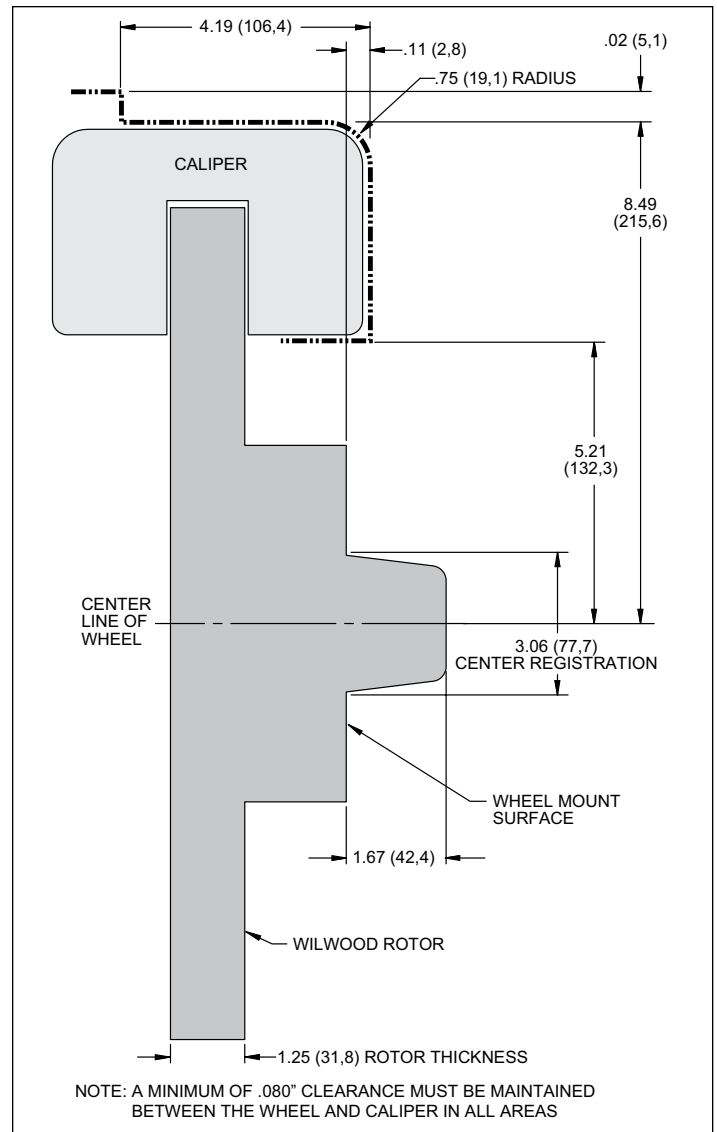

Figure 2. Wheel Clearance Diagram
- Review the wheel clearance diagram (figure 2, page 4) to verify that there is adequate clearance with the wheels you will be using with the installation.
•Verify your wheel clearance using Figure 2.